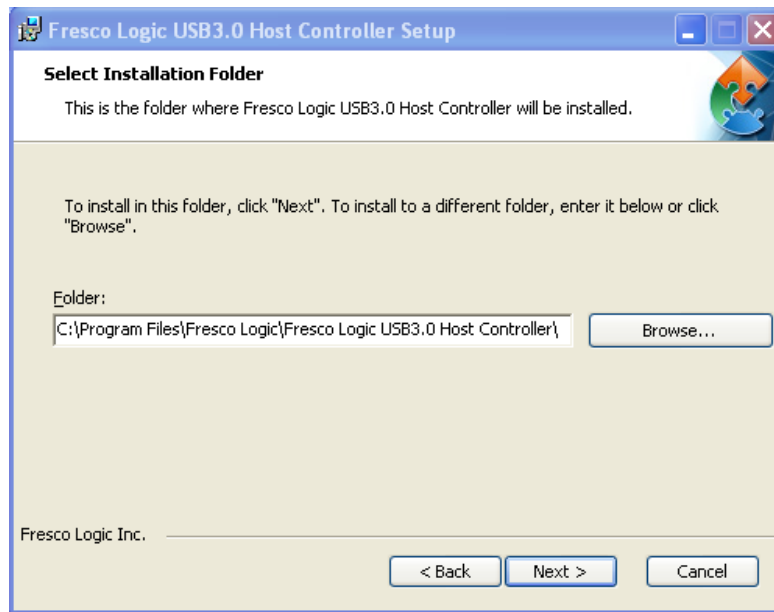

Figure 6-25: USB 3.0 Driver Choose Install Location
Step 6: Browse for an installation location or use the one suggested (**Figure 6-25**).